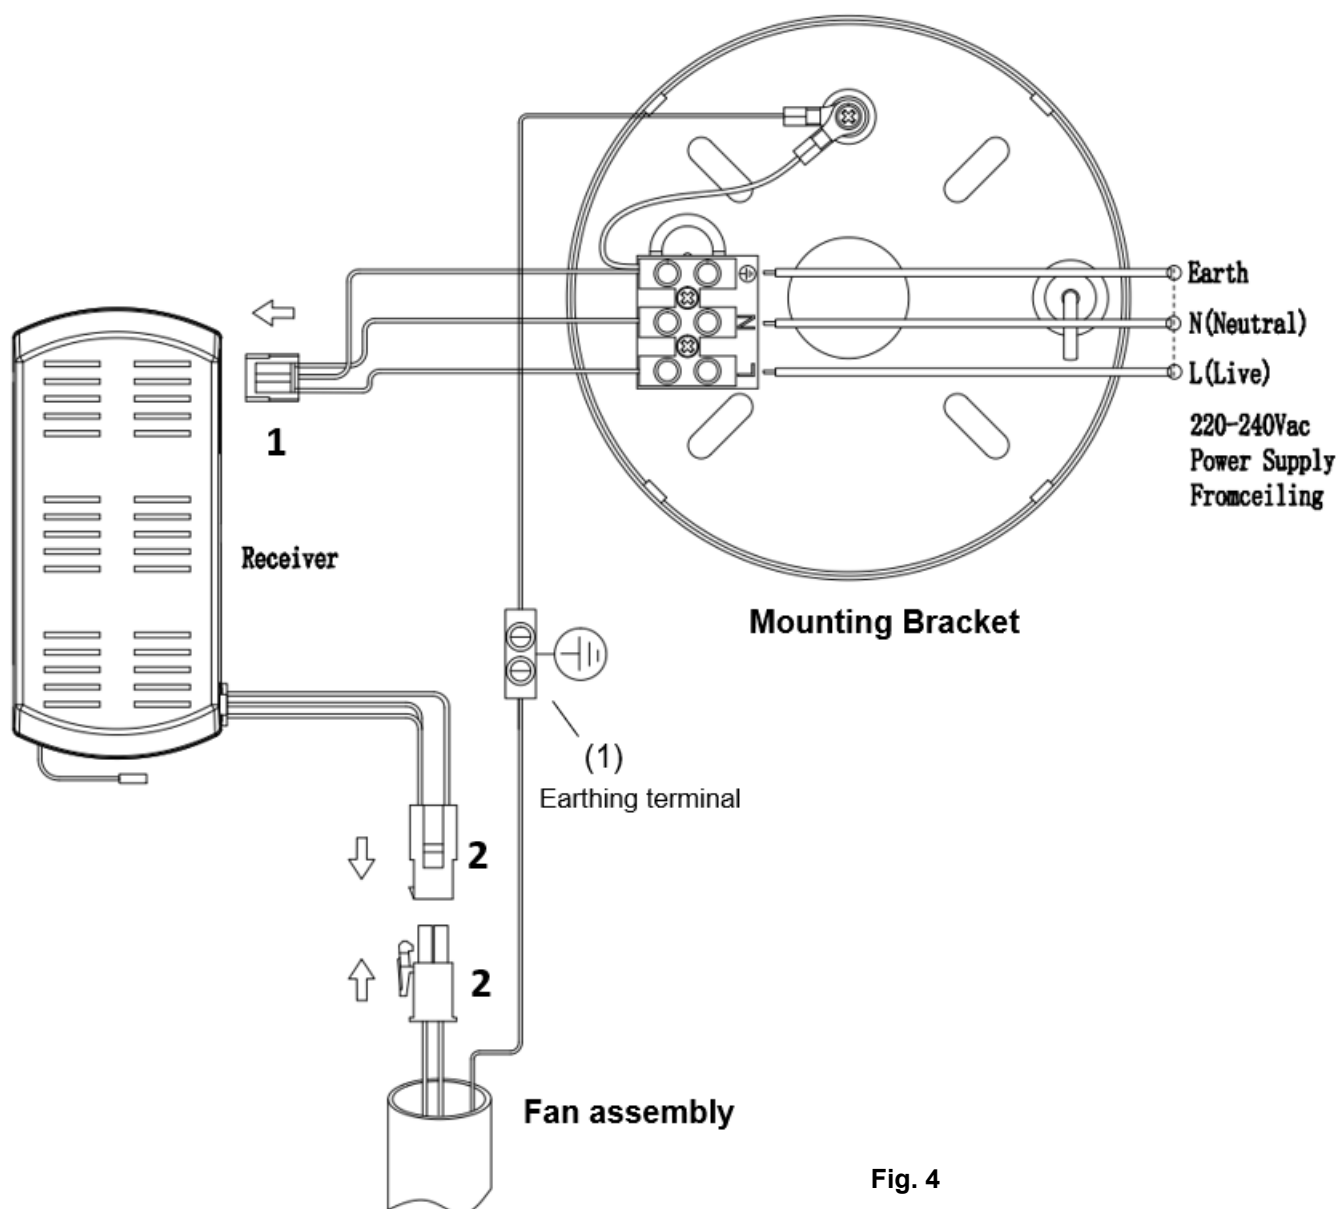

Fig. 4
ELECTRICAL WIRING DIAGRAM**PREPARE AND COMPLETE THE ELECTRICAL WIRING --- WIRING DIAGRAM (FIG. 4)**
NOTE: Ensure the motor earth wire is connected to the single earthing terminal block “ (1) ” in the diagram below (Fig. 4).
From mains supply to mounting bracket terminal block: (Fig. 4)
From mounting bracket to receiver and motor : (Fig. 4)
4. Connect the motor earth wire to the single earthing terminal block "1" in the diagram below. (Fig. 4)
5. Insert the supply wiring quick connector (1) from the mounting bracket to the fan receiver.
6. Connect the input wires quick connector (2) from the fan receiver to the input wires quick connector (2) from the fan assembly.